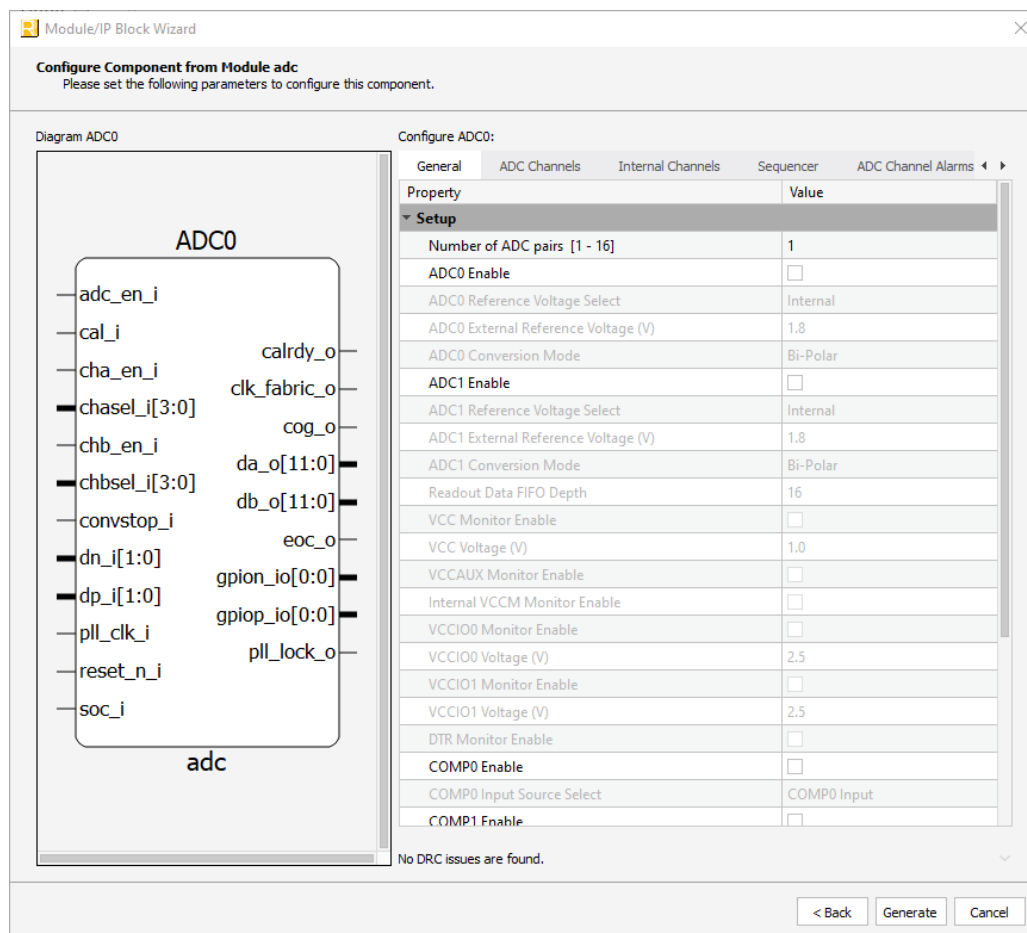

Figure 3.1. Configure Block of ADC Sequencer Module
2. In the dialog box of the Module/IP Block Wizard window, configure ADC Sequencer Module according to custom specifications using drop-down menus and check boxes. As a sample configuration, see Figure 3.1. For configuration options, see Table 2.2.
Generating and Synthesizing the IP	Updated Figure 3.1. Configure Block of ADC Sequencer Module.